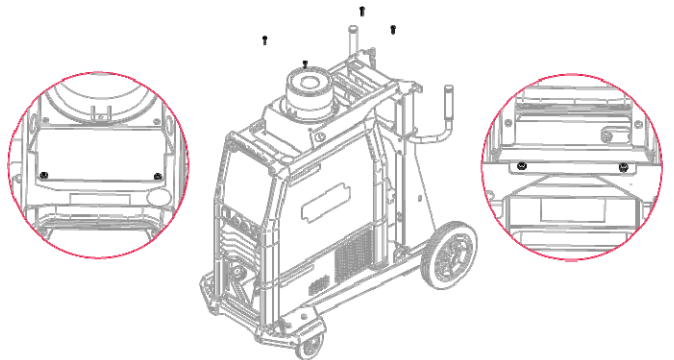

Figure 6
- Final assembly – the cooler should be assembled to the Speedtec with M6x25 screws (Figure 6).